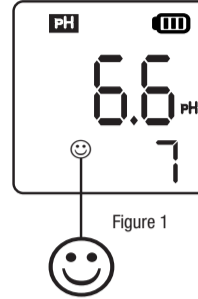

Figure 1
4. Dip the probe into 1413 μS/cm calibration solution. Stir gently, leave it to stand. Wait for the measurement stability icon (Ⓞ) to appear and stay on the display (see Fig 1); then short press CAL/↔ to complete the 1st calibration. Tester returns to measurement mode, and indication icon "M" appears on bottom left side of display.
4. Dip the probe in pH 7.00 buffer solution (SKU 00654-04), stir gently, and allow it to stand still in the buffer solution until a stable reading is reached. When stability icon (Ⓞ) appears and remains on the screen (see Fig 1); then short press CAL/↔ key to complete the 1-point calibration. The tester returns to measurement mode and indication icon "M" will appear at the bottom left of the screen, indicating the middle point of calibration has been completed.